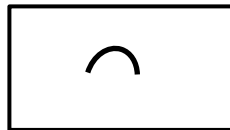

FIGURE 4.3
- D Tapered side up (1)
- 4.3 What does the supplementary symbol indicate in FIGURE 4.3?